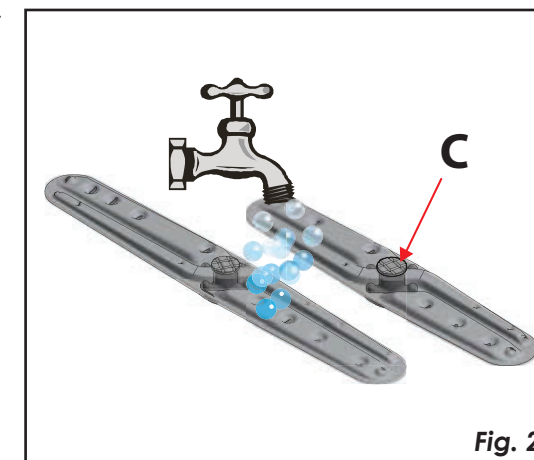

Fig. 2
1. When the tank is drained, remove the wash/rinse arms by loosening the fixing screws (C) and thoroughly clean them under running water making sure the jet openings are not clogged/blocked with food particles, Fig. 2.
2. Once thoroughly cleaned put the wash/rinse arms firmly back in place by tightening the fixing screws (C).